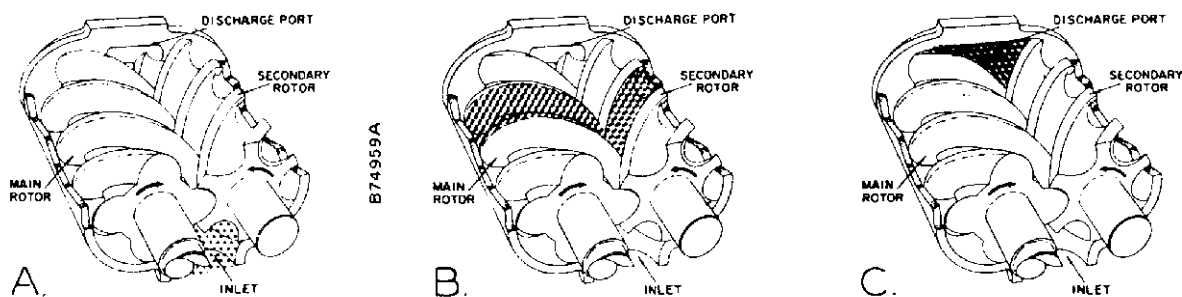

FIGURE 1-1 COMPRESSOR CYCLE
COMPRESSION PRINCIPLE (Figure 1-1) Compression is accomplished by the main and secondary rotors synchronously meshing in a one-piece cylinder. The main rotor has five (5) helical lobes 90° apart. The secondary rotor has six (6) matching helical grooves 72° apart to allow meshing with main rotor lobes.
The air inlet port is located on top of the compressor cylinder near the drive shaft end. The discharge port is near the bottom at the opposite end of the compressor cylinder. *Figure 1-1 is an inverted view to show inlet and discharge ports.* The compression cycle begins as the rotors unmesh at the inlet port and air is drawn into the cavity between the main rotor lobes and the secondary rotor grooves (A). When the rotors pass the inlet port cutoff, air is trapped in the interlobe cavity and flows axially with the meshing rotors (B). As meshing continues, more of the main rotor lobe enters the secondary rotor grove, normal volume is reduced and pressure increases.